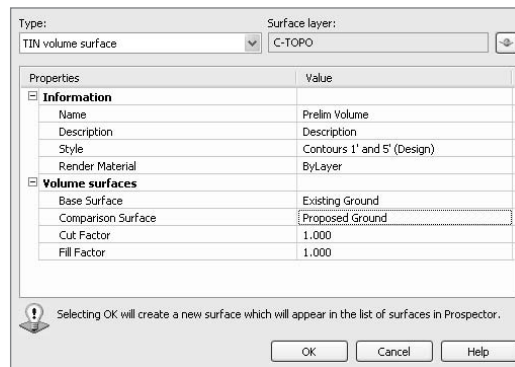

Figure 7.26
9. Select Proposed Ground and then click OK to dismiss the Select Comparison Surface dialog. Your Create Surface dialog should now look like Figure 7.26. If you have Cut and Fill factors, input them here to use those factors in your analysis.